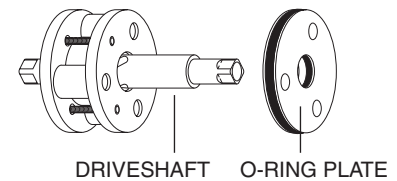

Figure 5:
9. Take care to hold the rest of the subassembly together, and slide the O-ring plate off the drive shaft. **(Figure 5)** (If the subassembly comes apart despite your caution, reassembly instructions are provided at the end of this procedure.)